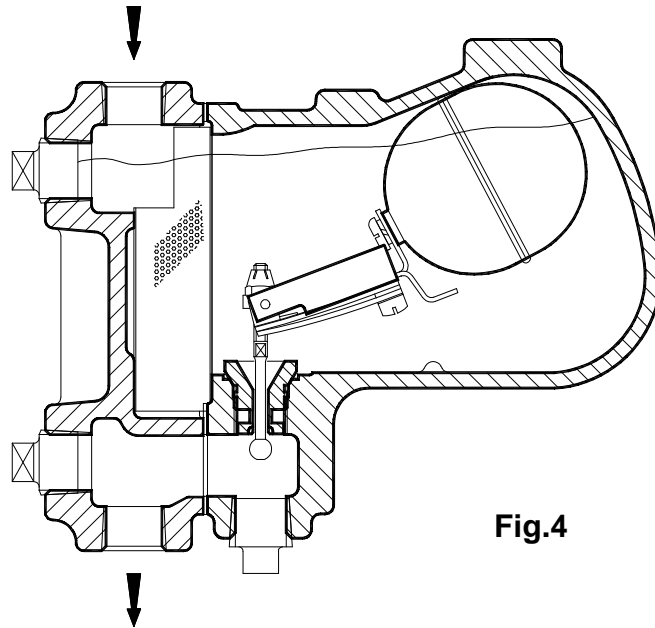

Fig.4
c. Discharge of Steam Hot Condensate (Fig 4)